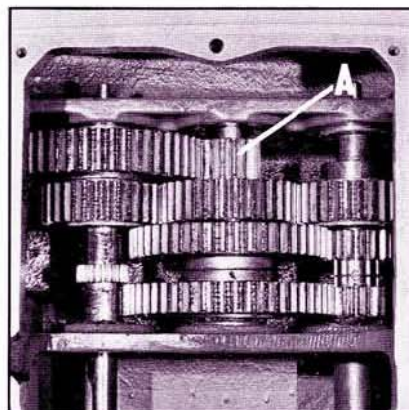

Fig. 31
12. Assemble the top gear (A) Fig. 31, to the shaft making sure the keys that were inserted in STEP II, engage with the keyways in the gear (A).